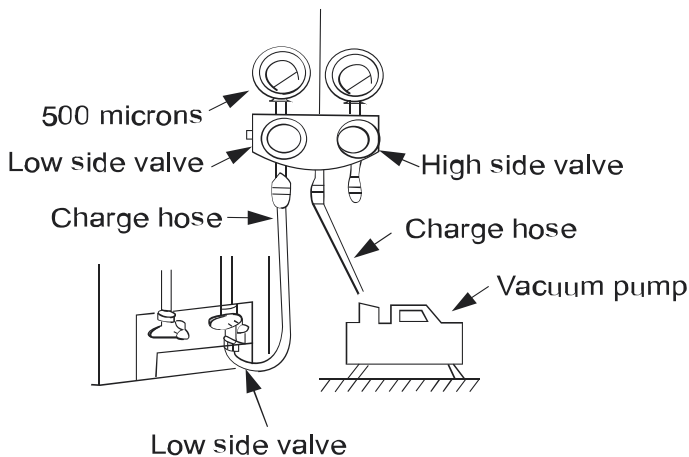

Fig. 18 —Manifold
3. Fully open the low side of manifold gage (see Fig. 18).